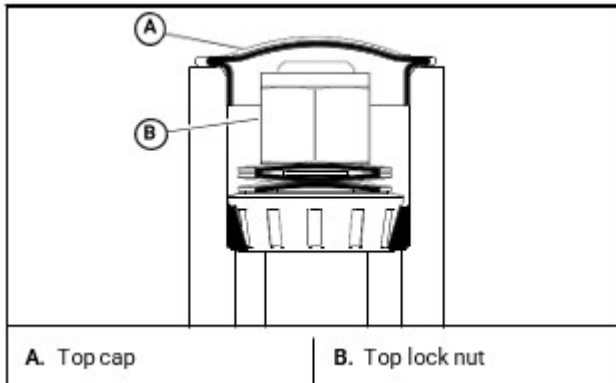

Figure 30
3. Remove the top cap and the top lock nut. [Figure 30]